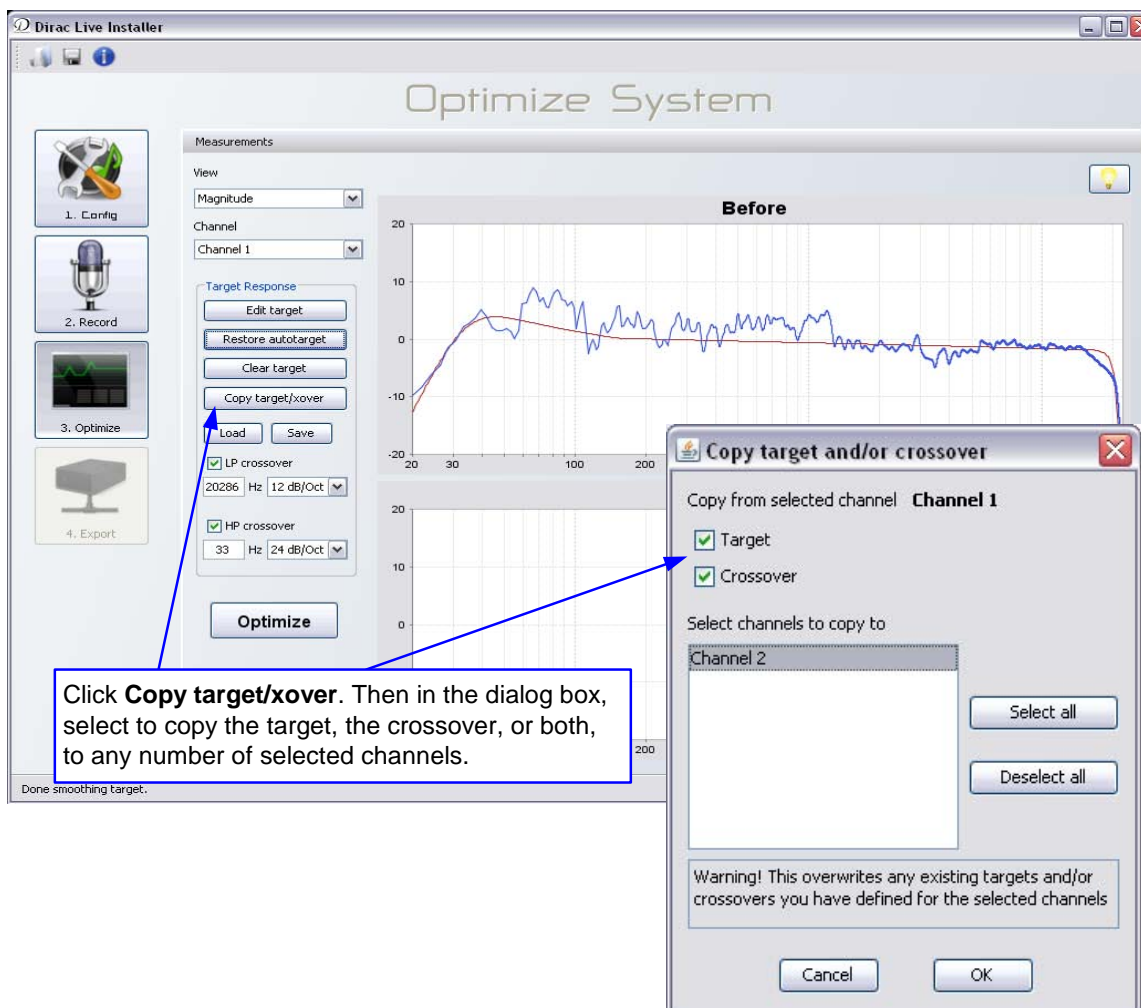

Figure 16. Optimize System Screen
3. (Optionally) Copy the target and/or cross-over settings from one channel to another (or to multiple channels) by clicking the **Copy target/xover** button. See Figure 16.